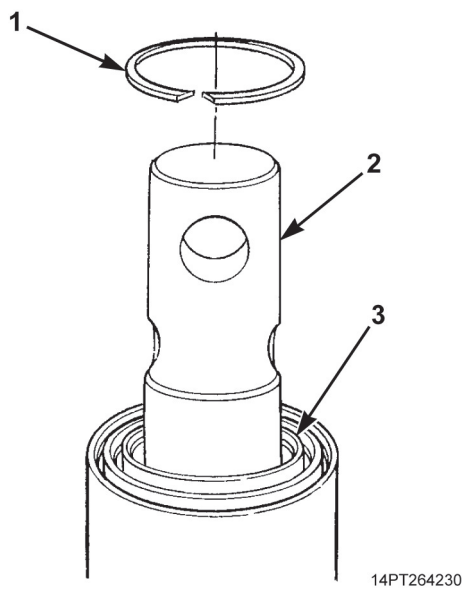

Figure 28. Plunger Installation.
15. Install plunger (Figure 28, Item 2) in sleeve (Figure 28, Item 3) and install bottom retaining ring (Figure 28, Item 1) in sleeve using 3-inch seal installation tool.